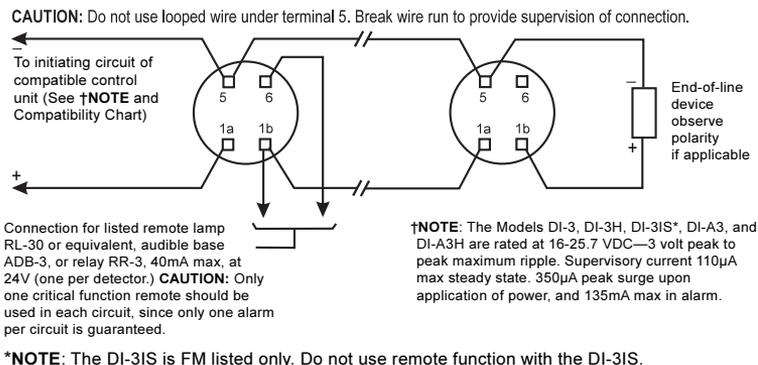

Figure 1 **SIEMENS** Models DI-3, DI-3H, DI-3IS, DI-A3, AND DI-A3H
Siemens Industry, Inc., detectors should be interconnected as shown in Figure 1 and wired to the control panel by following the Wiring Connection drawing installed on the inside face of each control panel cover. Duplicate wiring information is also contained in the Installation, Operation, and Maintenance manual provided with every control panel. Note should be made of any limitations on the number of detectors permitted on each circuit. Quantities may vary, based on the specific type of response designed into the system (fan shutdown, door closing, external relay tie-in, extinguishing system discharge, etc.).
- Mount base to outlet box and route wires through the hole in the center of the base. Make connections directly to the base terminals. Refer to Figure 1 for details.